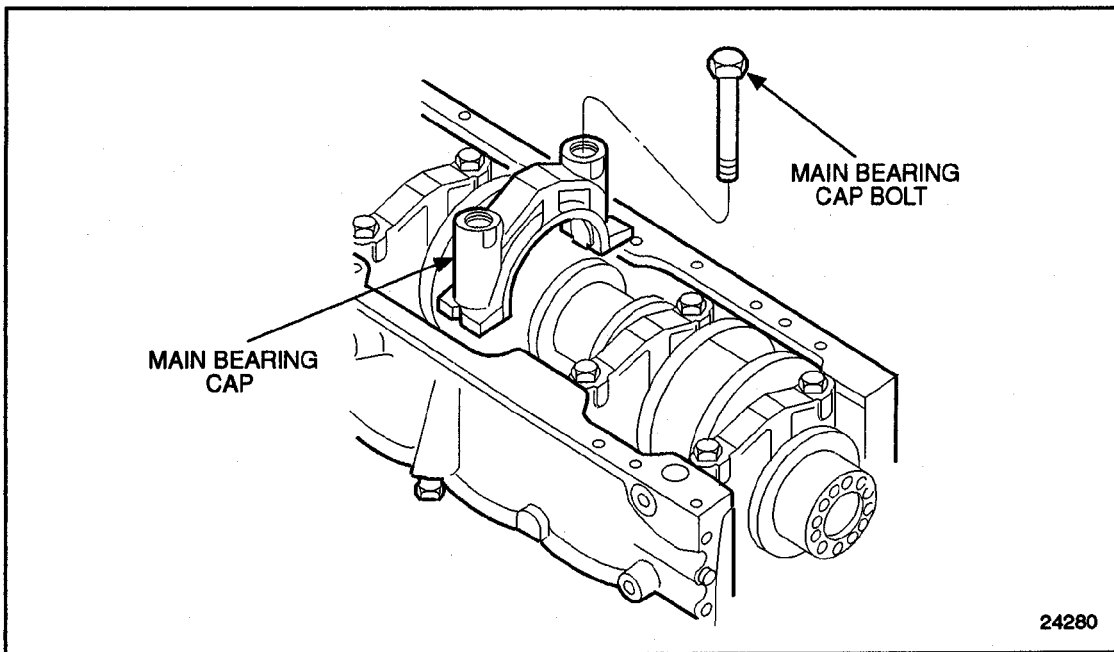

Figure 1-122 Main Bearing Cap Installation
6. Install the main bearing caps together with lower bearing shells in place. Install the main bearing cap bolt. See Figure 1-122.